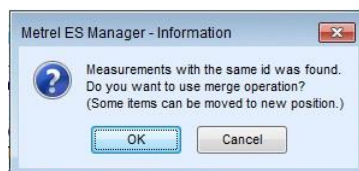

Figure 7.6: Merge confirmation information window
- **Equal unique identifications** was found: Merge confirmation information window **Figure 7.6** appear on the screen: